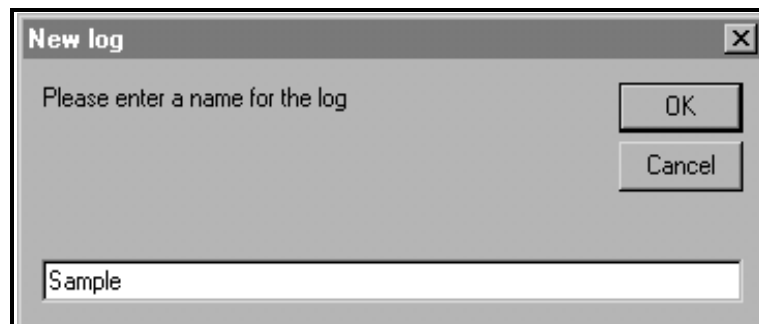

Figure 17: Log Name Dialog Box
5. Enter a log *file name* ("Sample" in this case) in the dialog box shown in Figure 17. Click on the **[OK]** option button.